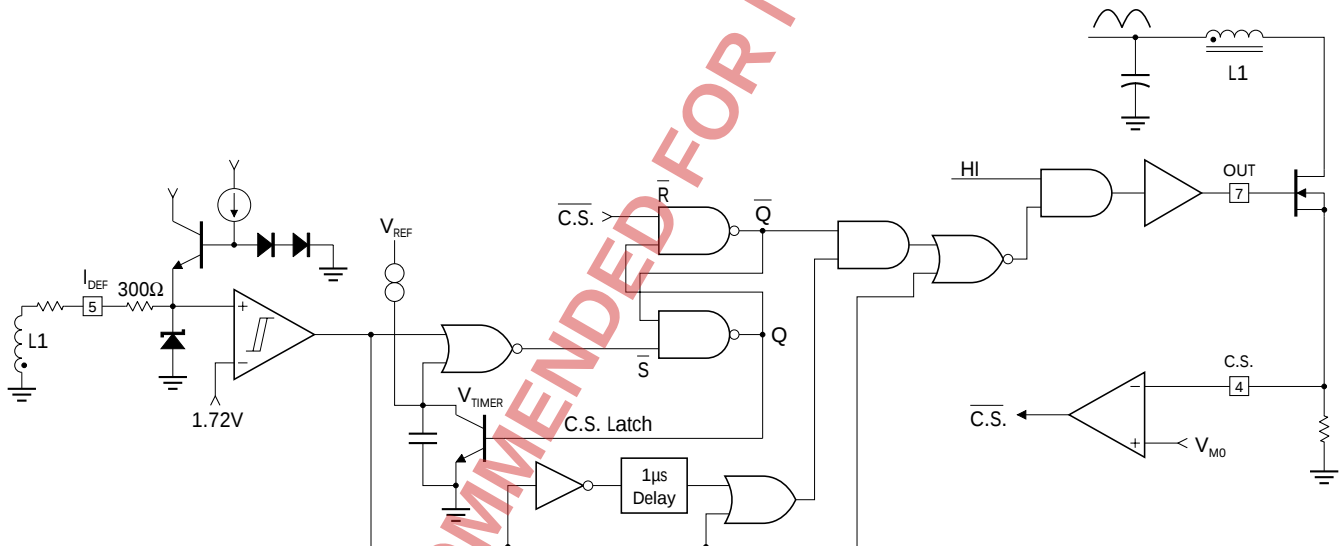

FIGURE 30 — START-UP TIMER & CURRENT DETECT LOGIC CIRCUITRY
The function of "current detect logic" is to sense the operating state of the boost inductor and to enable the output driver accordingly. To achieve this, the downward slope of the inductor current is indirectly detected by monitoring the voltage across a separate winding and connecting it to the detector input " I_{DET} " pin. Once the inductor current reaches ground level, the voltage across the winding reverses polarity and changes the " I_{DET} " input and the comparator output to the low state (See Figure 30). When comparator changes state, it sets the latch and turns on the output driver for a period of 1μs (typ.) regardless of any changes in the latch output ($\bar{Q}$) within this period. This ensures that if the C.S. comparator changes state due to any turn-on spike, the driver output remains on and does not turn off prematurely.
A start-up timer circuit eliminates the need for an external oscillator when used in stand alone applications. The timer, as shown in Figure 30, provides a means to automatically start the pre converter if the latch output $\bar{Q}$ comes up in a wrong (HI) state. The timer capacitor ramps up and resets the latch to a low state, turning the output driver on.